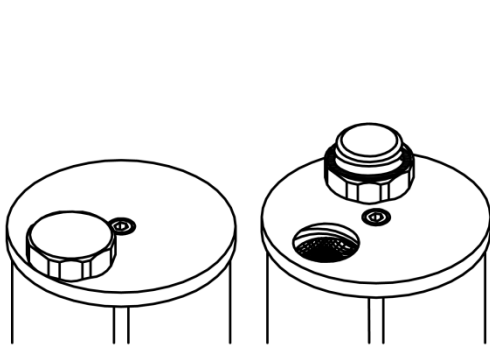

Fig. 8: 0.8 litre reservoir with twist lid
- 0.8 litre reservoir : Open twist lid (coarse thread and O-ring seal) and place lid on upper flange (*Fig. 8*, protection from loss)